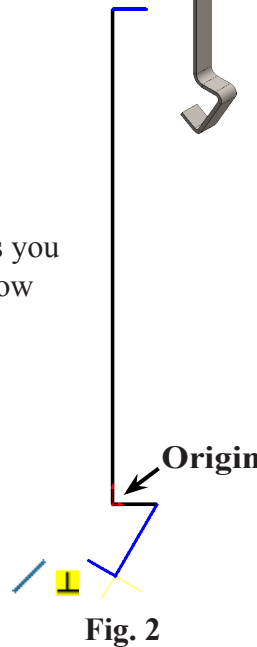
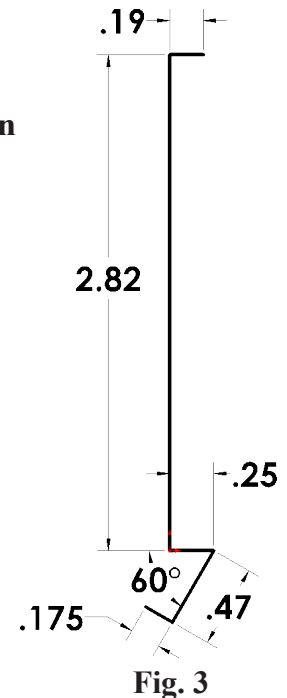

Fig. 2
Fig. 3
Step 3. Click **Line**  (L) on the Sketch toolbar.
Step 4. Starting from the Origin  sketch lines, **Fig. 2**. As you sketch line at bottom of sketch, position cursor to show **Perpendicular**  automatic relation.
Step 5. Click **Smart Dimension**  (S) on the Sketch toolbar.
Step 6. Add dimensions, **Fig. 3**.